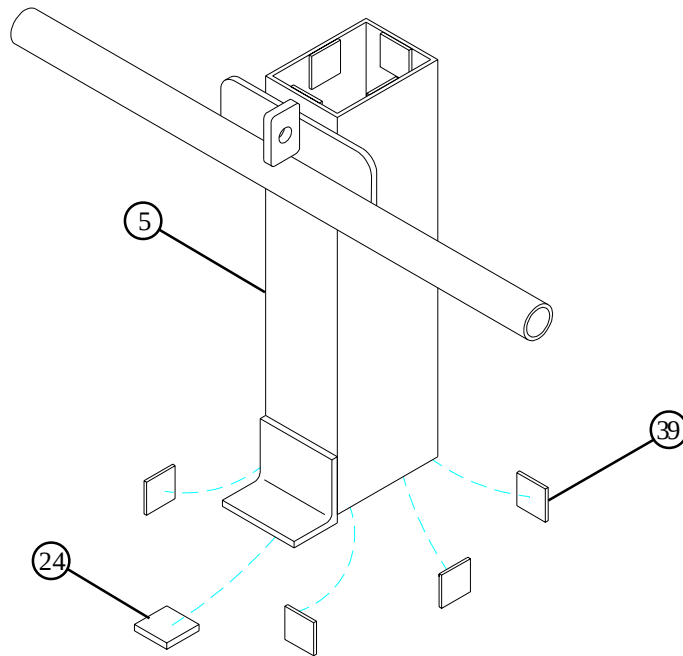

FIGURE 2
- Attach eight 1 X 1" GLIDES (39) to the ends the CARRIAGE (5) as shown in FIGURE 2 using the following steps:
- Thoroughly clean all surfaces where the 1 X 1" GLIDES (39) are to be attached.
- Remove the 1 X 1" GLIDES (39) from the paper backing and firmly apply them to all shown surfaces.
- **SECURELY** attach one 1-1/4" SQ. RUBBER BUMPER (24) to the CARRIAGE (5) as shown in FIGURE 2.